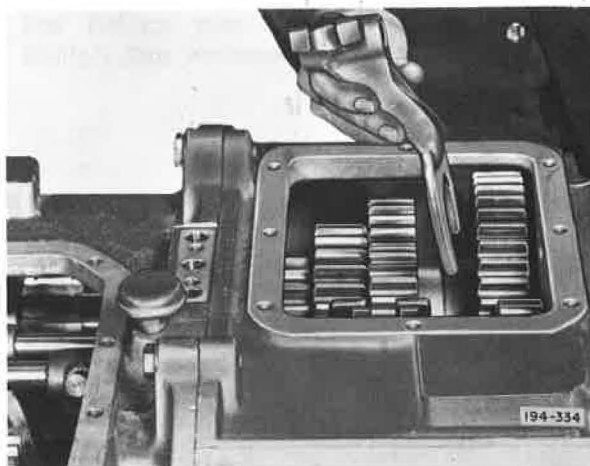

Figure 5-61. Installing Fourth and Fifth Speed Shifter Fork
27. Start fourth and fifth speed shifter rail in hole provided in front of case. Engage fourth and fifth speed fork with fourth and fifth speed sliding clutch. See Figure 5-61.